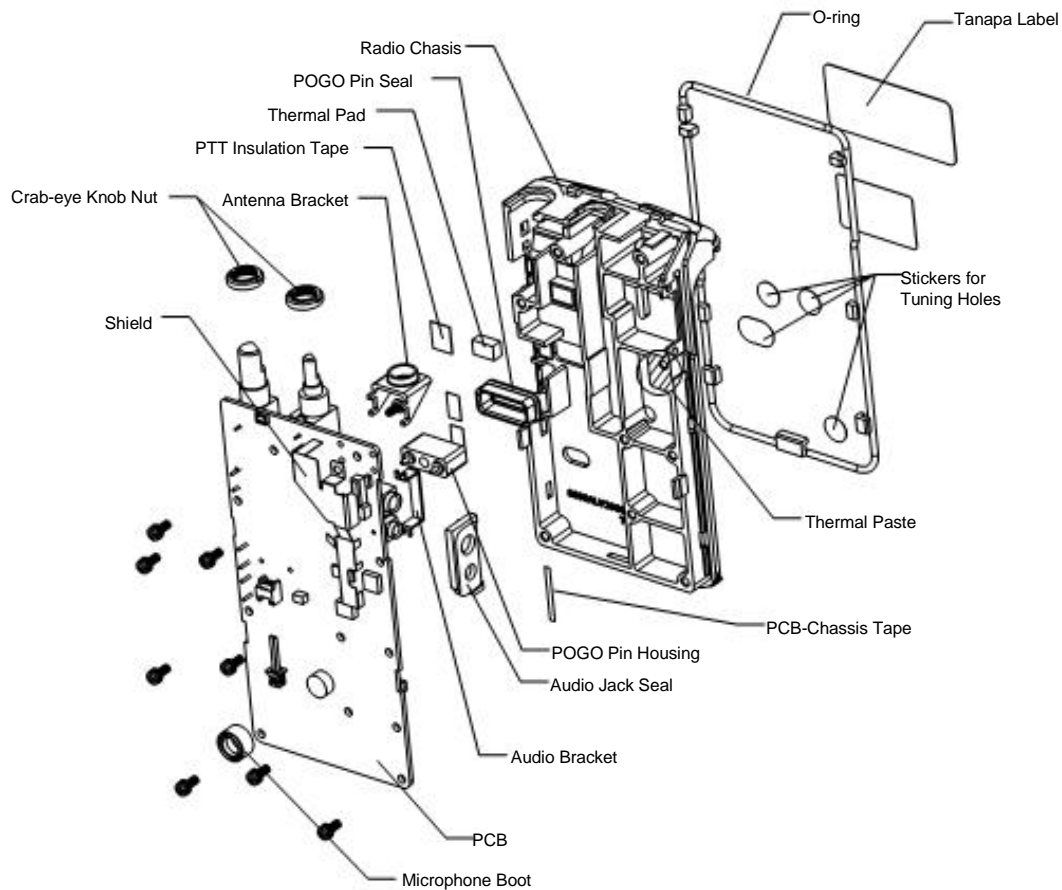

Figure 2-7 Completely Disassembled PC Board
5. The completely disassembly PC board is shown in “Figure 2-7”.